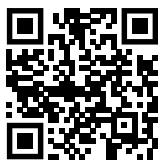

Fig. 139
- ▶ Åbn Liebherr SmartMonitoring Dashboard. (se Fig. 139)